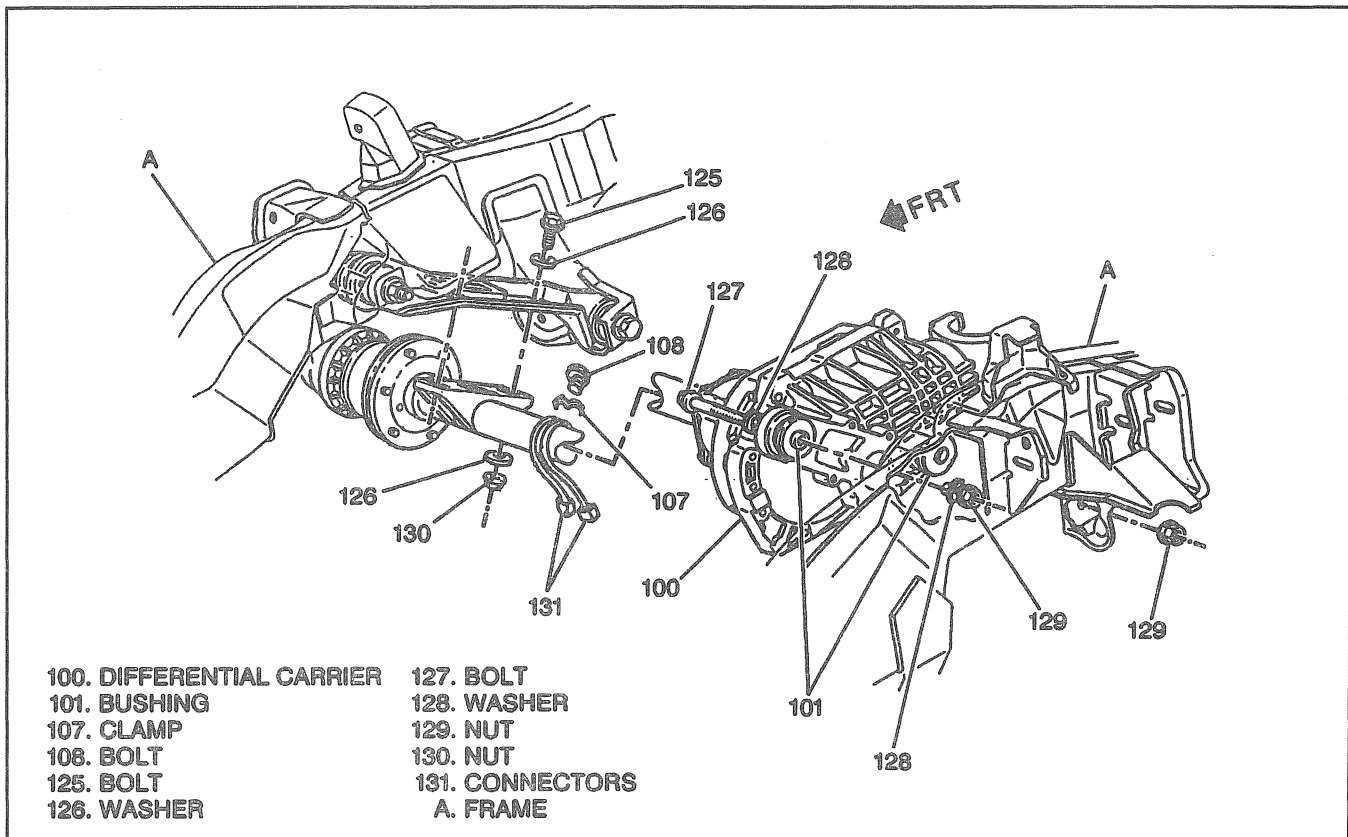

Figure 13—Differential Carrier Mounting
3. Electrical connectors (131) (Figure 13).
4. Axle shaft (output shaft) nuts (130) and washers (126) (Figure 13).
3. Axle shaft (output shaft) tube washers (126) and nuts (130) to frame (Figure 13).
- Nuts (130) to specifications:
5. Electrical connectors (131) (Figure 13).